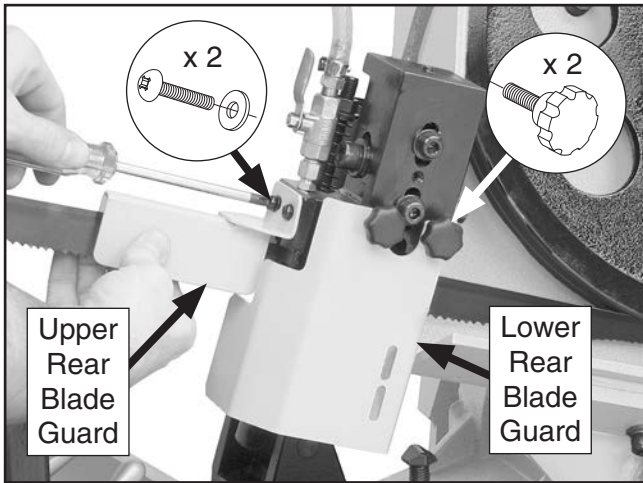

Figure 85. Location of rear blade guards and fasteners.
6. Loosen (2) knobs shown in **Figure 85** to remove lower rear blade guard.
7. Remove (2) Phillips head screws and flat washers shown in **Figure 85** to remove upper rear blade guard.